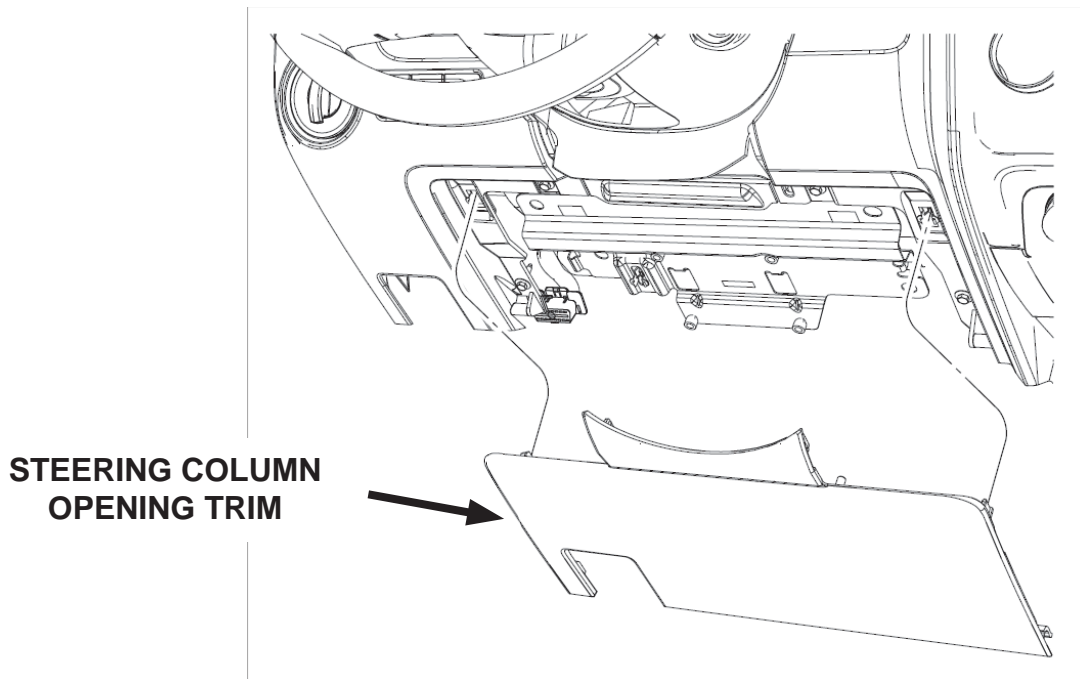

FIGURE 1
5. Remove the steering column opening trim. See Figure 1.